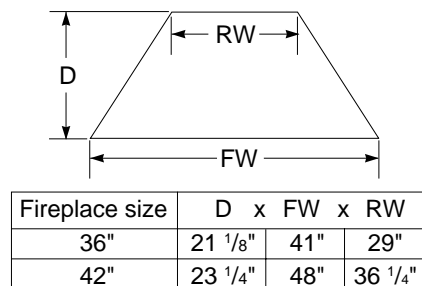

Figure 3 - Fireplace Bottom Dimensions
- If your fireplace is to be installed directly on carpeting, vinyl tile, or any combustible material other than wood, it must be installed on a metal or wood panel extending the full width and depth of the fireplace. See Figure 3.